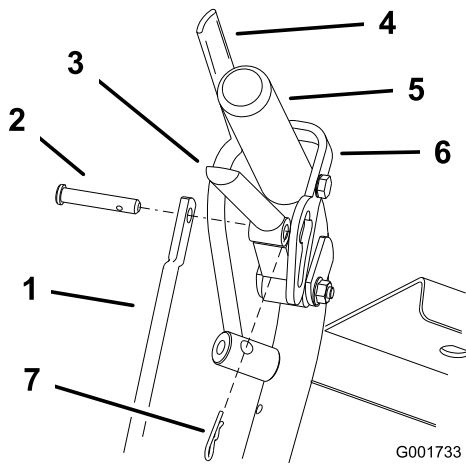

Figure 41
- Adjust the rod length by releasing the drive lever and removing the hairpin cotter pin and clevis pin. Rotate the rod in the rod fitting (Figure 41).
4. Place the clevis pin into the drive lever (Figure 41).
6. Install the hairpin cotter pin between the drive levers and the neutral locks and into the clevis pins (Figure 41).